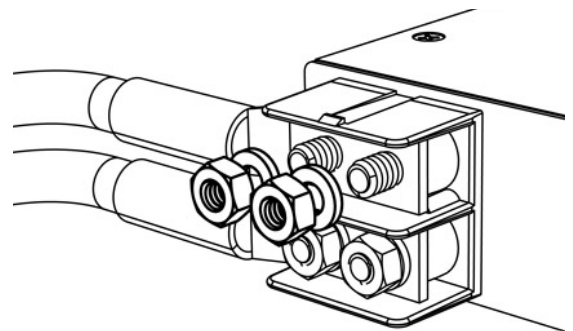

Figure 13. Hot Input Landing
- Step 3.** Install the hot input cables/lugs to the hot input studs located on the rear of the panel (see Figure 13). Ensure that all hardware is tightened.